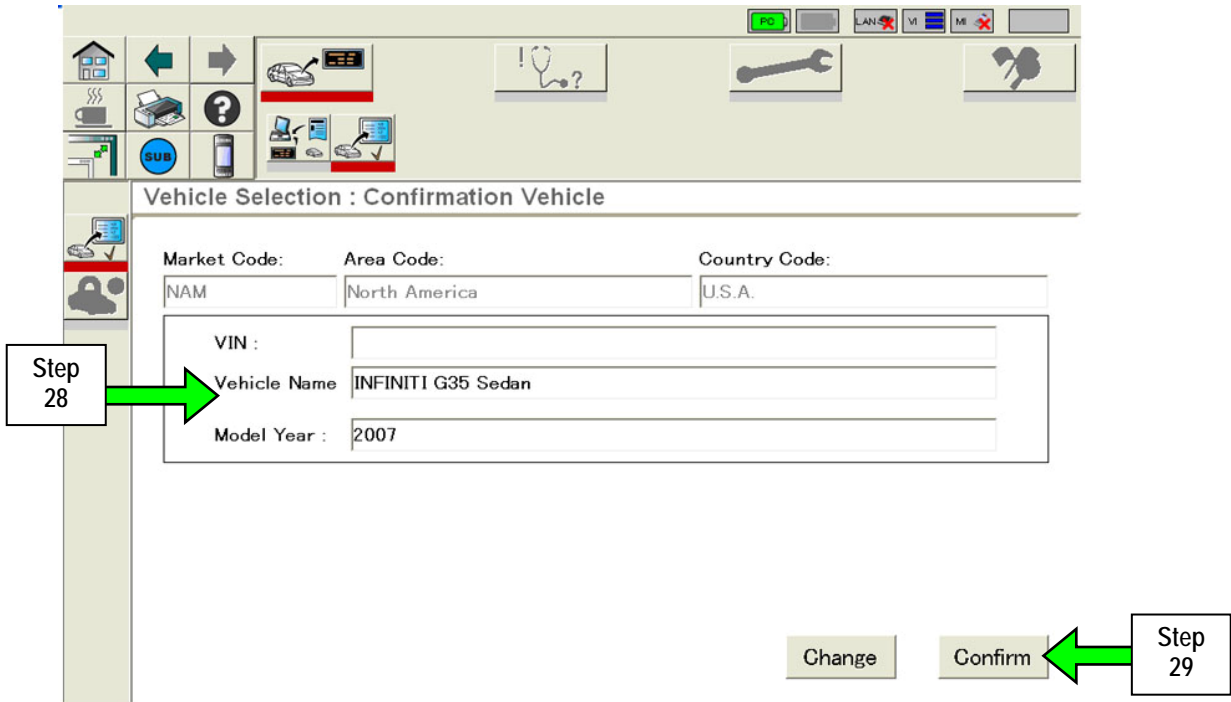

Figure 12
28. Make sure the correct vehicle is displayed (see Figure 12).